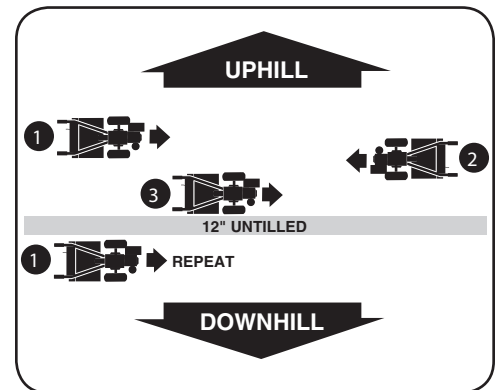

Figure 4-16
- To create a terrace, start at the top of the slope and work down. Go back and forth across the first row. See Figure 4-16.